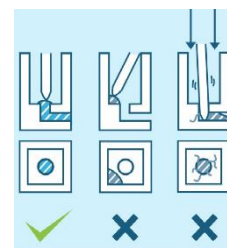

Figure 4: Gel loading
- a. Gently place your pipette tip on top of the hole in the bottom of the well and dispense the gel. Contact between the pipette tip and the hole is essential for gel loading. Correct positioning of the gel on top of hole allows capillary forces to pull the gel into the microfluidic gel channel (see figure 4)
5. Seed 2 μ L of cell suspension in the perfusion medium inlet (columns 1, 3, 4, 6, 7, 9, 10, 12, 13, 15, 16, 18, 19, 21, 22, 24; rows A, C, E, G, I, K, M, O, **see plate layout on pg.8**) using the same pipetting procedure as previously used for gel loading (see figure 4)